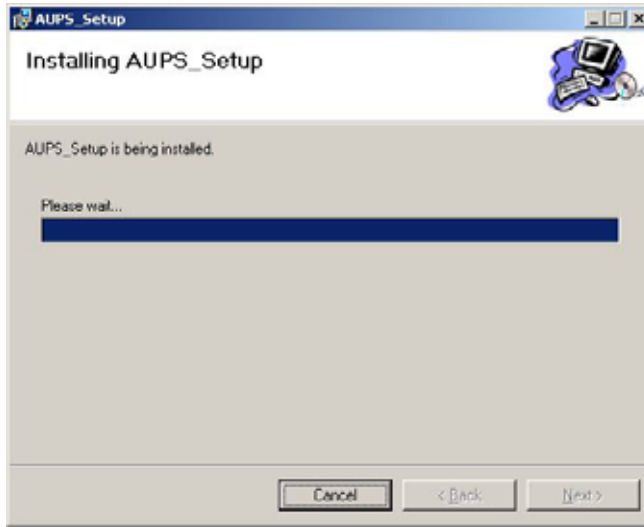

Figure 8-4: Installing AUPS
Step 5: Click **NEXT** to continue. The Installing AUPS_Setup screen appears as the program is installed (**Figure 8-4**).